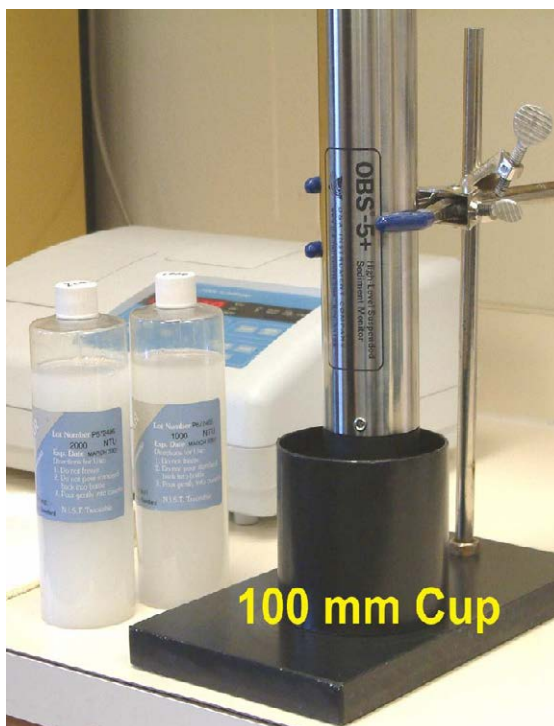

FIGURE 7-5. OBS-5+ in 100 mm cup
- 5) Enter 0.3 in the value box and click the record button to log the clear-water data point. The unit will take 1,200 measurements in 60 seconds. When the process is complete, the data appear in the data table and the point will be plotted on the calibration graph. If you are satisfied with the data, mount the unit in a 100 mm calibration cup as shown on FIGURE 7-5.